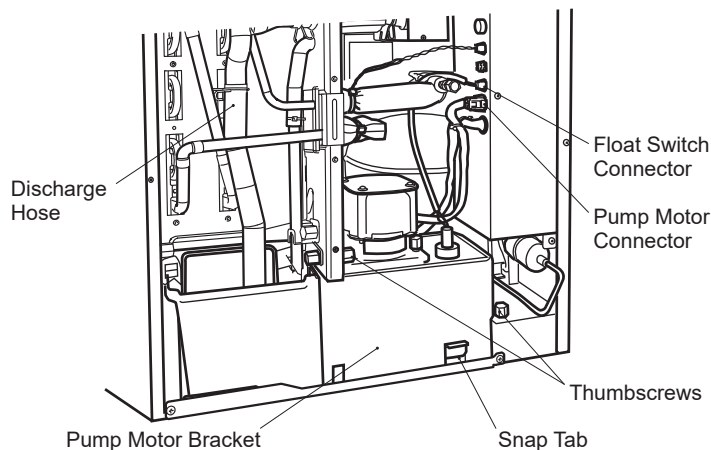

Fig. 3
- Loosen the two thumbscrews securing the pump motor bracket. See Fig. 3.
Be sure to let the discharge hose pass behind the copper tube and connect it securely in position. See Fig. 3. Otherwise, the discharge hose may be caught in the front insulation, leading to improper results.